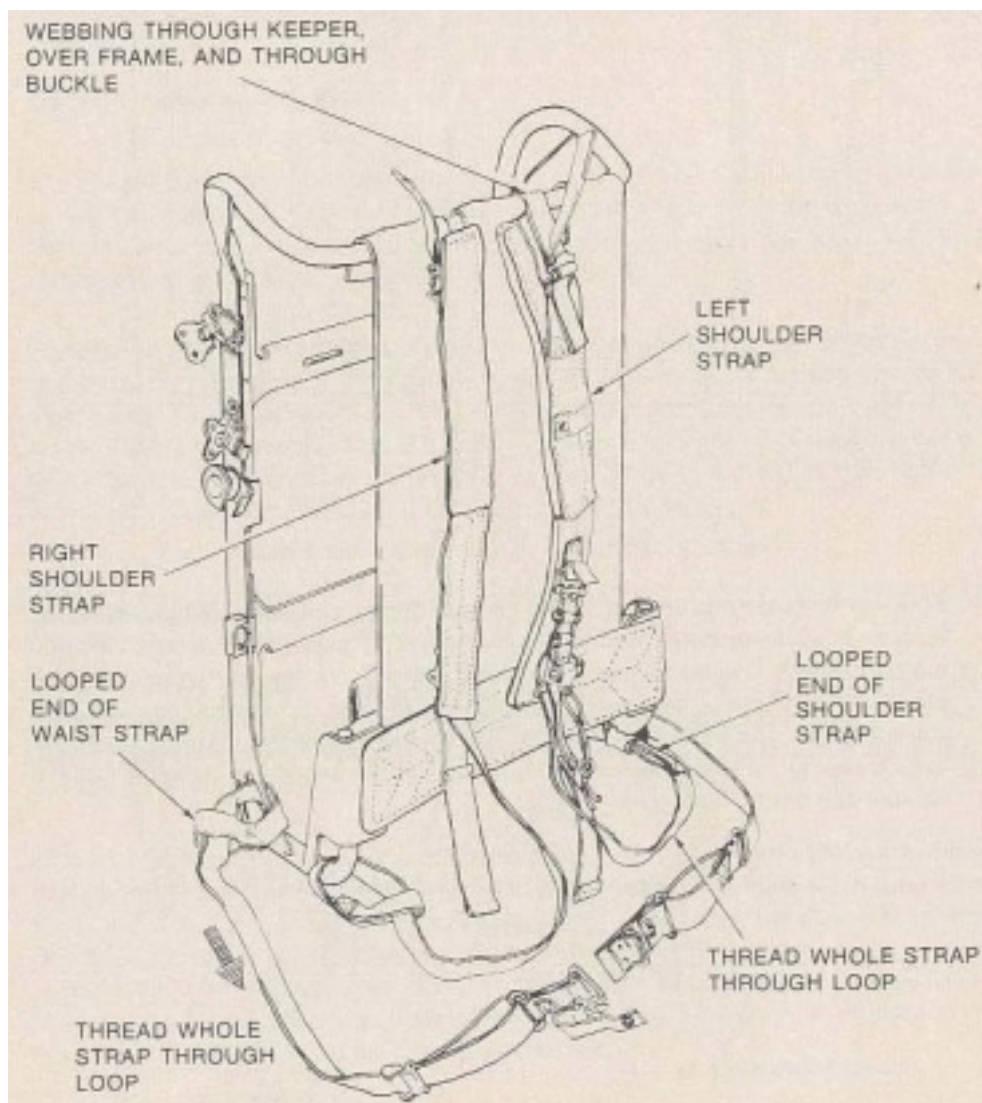

Figure 6. Attaching Shoulder and Waist Straps to Pack Frame
D. The two padded shoulder straps are attached to the pack frame at the top and bottom. Refer to figure 6. The shoulder strap with the quick release assembly is for the left shoulder. Insert the looped (lower) end of the shoulder strap from the inside of the pack frame through the opening at the bottom side (just below the slot that accepts the lower backstrap). Thread the strap through the loop and pull tight. Route the webbing at the top of the strap around the top of the frame (between the tabs of the nylon backrest) through the buckle and pull tight. Repeat the procedure with the other shoulder strap.